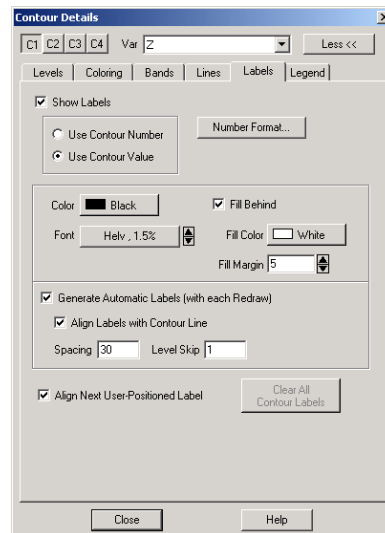

Figure 10-13. The Labels page of the Contour Details dialog.
2. On the Contour Details dialog, choose the right contour group, then select Labels. The Labels page of the dialog appears, as shown in Figure 10-13.